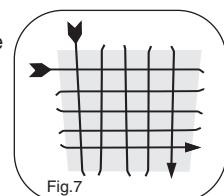

Fig.7
4. When spraying large areas or objects, it is best to use a criss-cross pattern, either from left to right then up or down or vice-versa. This will ensure maximum coverage (Fig.7).